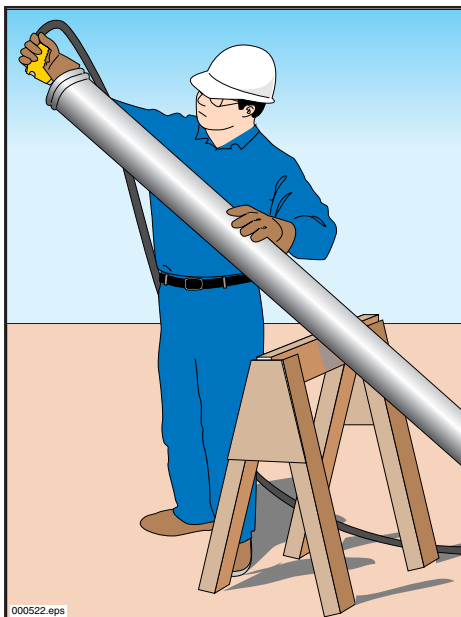

Figure 21
- On many jobs, pipe or hose will be removed as the day goes on. Wash the removed pipe, hose, clamps, and gaskets so the concrete residue doesn't harden (Figure 21).